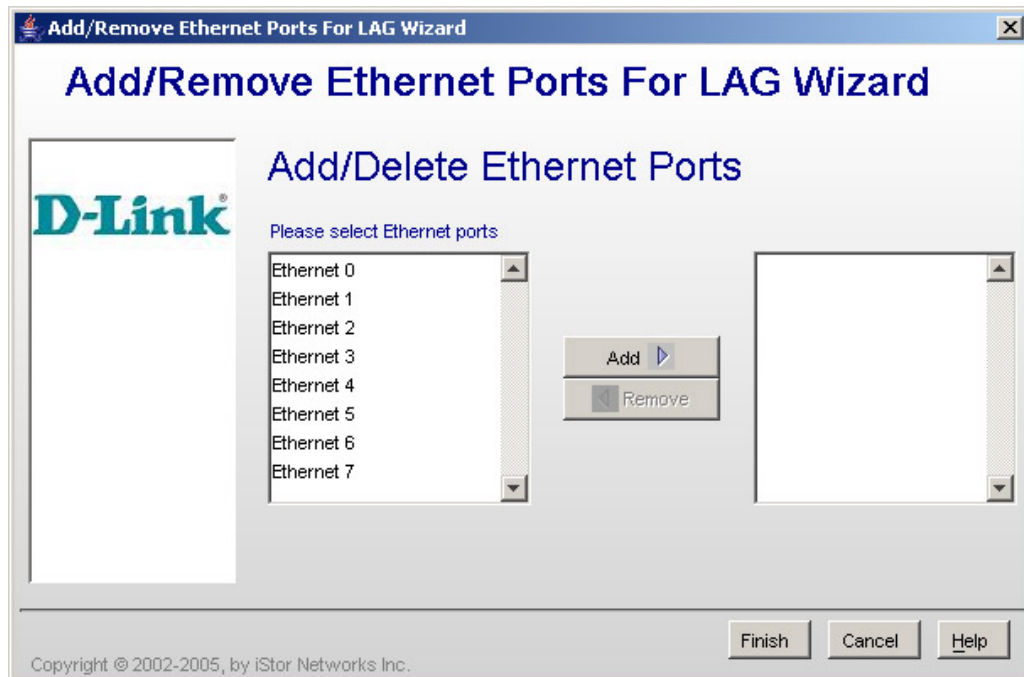

Figure 5-27 Add/Remove Ethernet Ports for LAG Wizard - Add/Delete Ethernet Ports screen
2. On the **Network** menu, click **Config Physical Port**. The Add/Remove Ethernet Ports for LAG Wizard starts and the Add/Delete Ethernet Ports screen appears (see Figure 5-27).